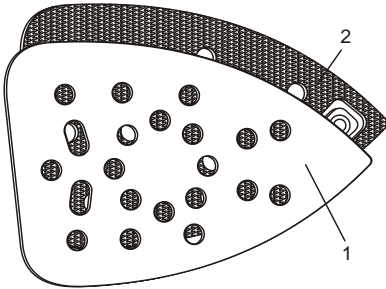

Fig. 4
1. Firmly press the sandpaper (1) onto the hook & loop pad (2) (Fig. 4).
NOTE: See Fig. 4 & 5 for installing and removing the hook & loop sandpaper.